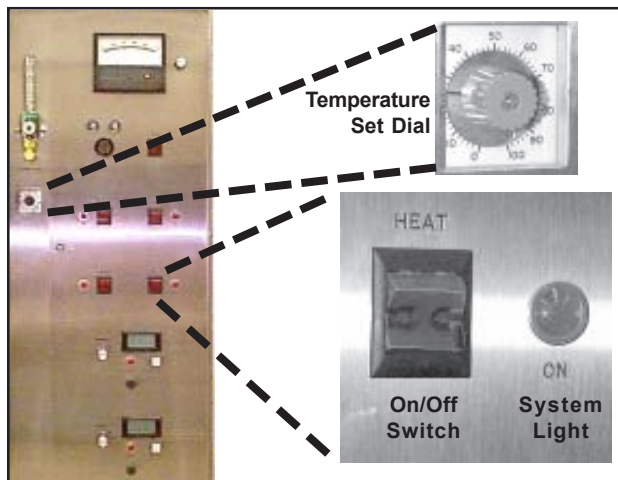

Figure 56. Heat Controls
3. Press the heat on/off switch to turn heat On. The amber light in the switch comes on (Figure 56).